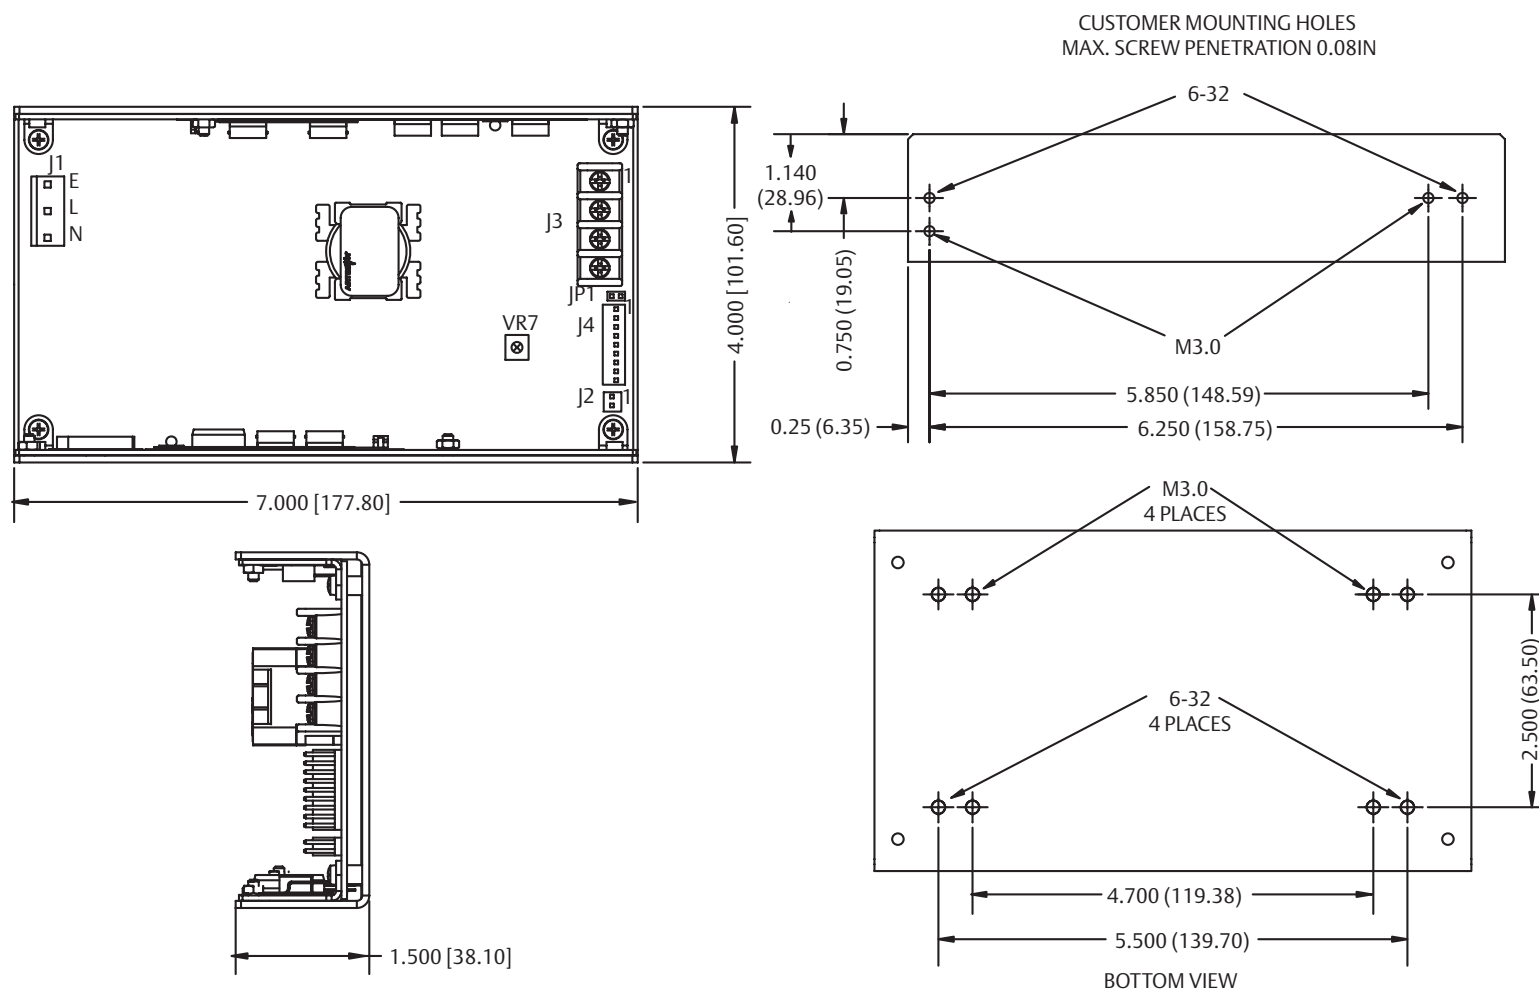

Figure 1: Derating Curve
- 1 Free air convection. Maximum continuous output power not to exceed 175 W. Refer to Figure 1 for the derating curve.